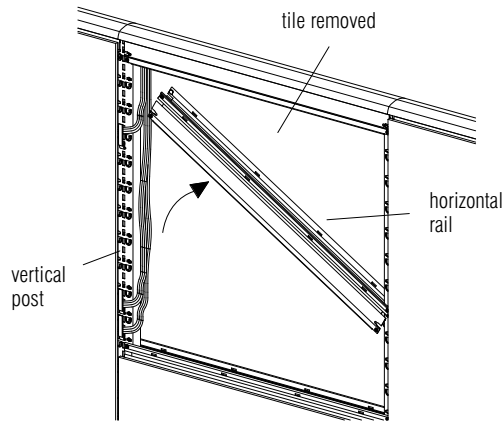

Figure 82
1. After removing the required tile(s), remove the horizontal rail by taking off any tile hooks that are locking the horizontal in place. Then, tap the horizontal out with a dead blow mallet. Once the horizontal is free from the pockets on the vertical post, lift the horizontal up and slide it to one side. Rotate the opposite side upward to clear the vertical post, and lift the horizontal free. **Figure 82.**